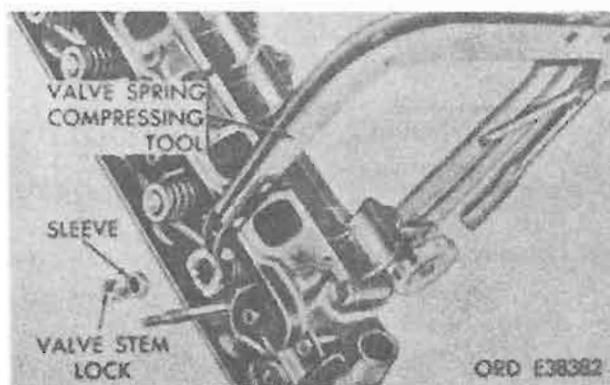

Figure 4-123. Intake valve spring retainer lock—removal and installation.
(1) *Intake valve spring retainer keys.* Compress valve spring with a suitable valve spring compressing tool, and remove two valve spring retainer keys and valve spring sleeve (fig. 4-123).
(2) *Intake valve springs, seats, sleeves, and locks.* Install valve spring over valve stem with close-wound end of coil toward cylinder head. Install seat and sleeve. Use valve spring compressor to compress spring, being careful not to damage valve stem seal, and install locks. Remove tool. Refer to figure 4-123.